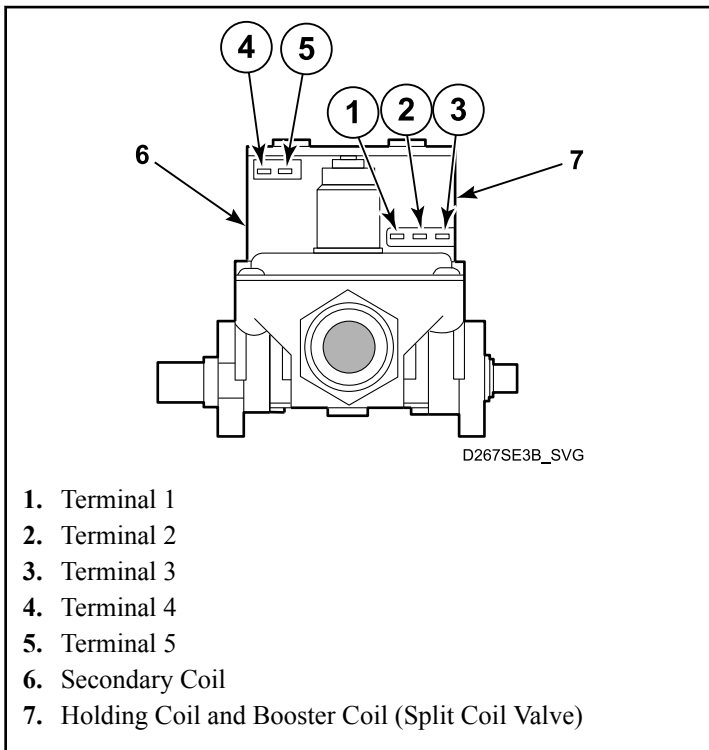

Figure 15
Gas Models - Refer to *Figure 15* and *Figure 16* .
6. Set test meter to read AC voltage and apply meter probes into terminals on the dryer harness plug that would correspond to terminals “1” and “2” on the coil. Refer to *Figure 15* and *Figure 16*. Meter should register line voltage in all temperature settings, except NO HEAT which should read “zero” VAC.